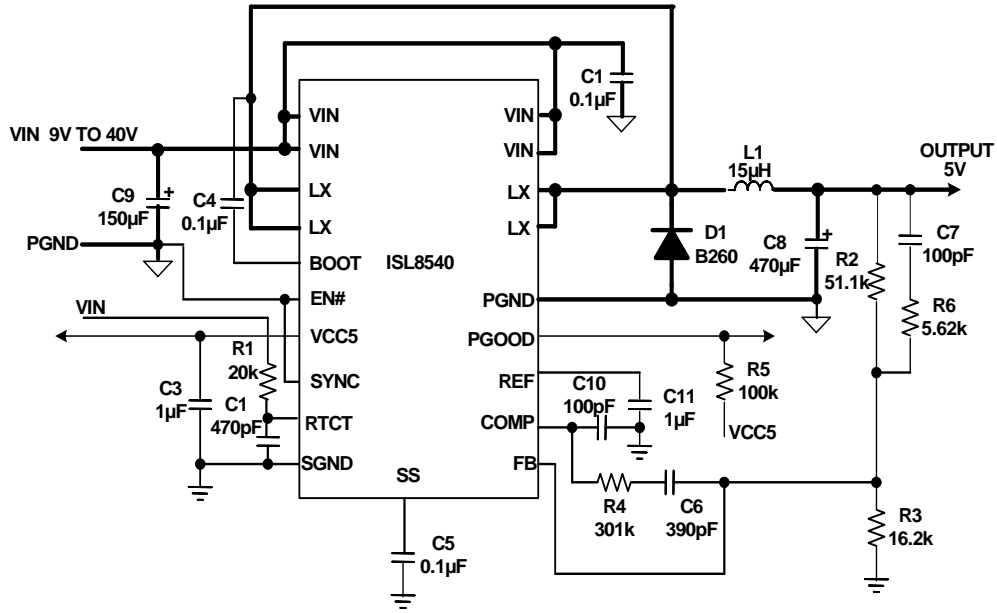

FIGURE 2. TYPICAL SCHEMATIC FOR ISL8540 (5V VOUT)
**Typical Performance Curves** Circuit of Figure 2,  $V_{IN} = 24V$ ,  $EN\# = 0V$ ,  $FS = 500KHz$ ,  $V_{OUT} = 5V$ , unless otherwise noted. Typical values are at  $T_A = +25^\circ C$ .
Circuit of Figure 2,  $V_{IN} = 24V$ ,  $EN\# = 0V$ ,  $FS = 500kHz$ ,  $V_{OUT} = 5V$ , unless otherwise noted. Typical values are at  $T_A = +25^\circ C$ . (Continued)
**Typical Performance Curves** Circuit of Figure 2,  $V_{IN} = 24V$ ,  $EN\# = 0V$ ,  $FS = 500kHz$ ,  $V_{OUT} = 5V$ , unless otherwise noted. Typical values are at  $T_A = +25^\circ C$ . (Continued)
**Typical Performance Curves** Circuit of Figure 2,  $V_{IN} = 24V$ ,  $EN\# = 0V$ ,  $FS = 500KHz$ ,  $V_{OUT} = 5V$ , unless otherwise noted. Typical values are at  $T_A = +25^{\circ}C$ . (Continued)